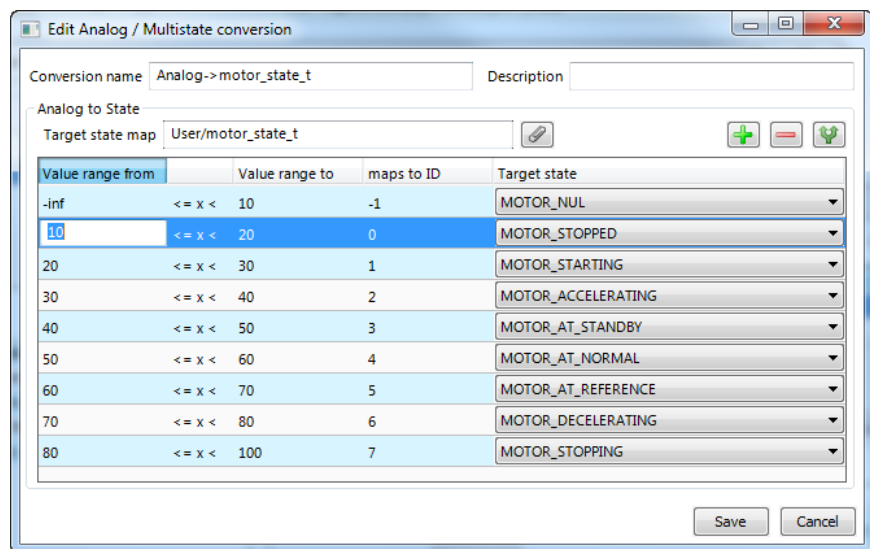

Figure 164: Edit an analog to multi-state conversion.
8. An example for editing an analog to multi-state value conversion is shown in Figure 164. Enter a **Conversion name**, then edit the **Value range from** column and select the desired **Target state** mapping.